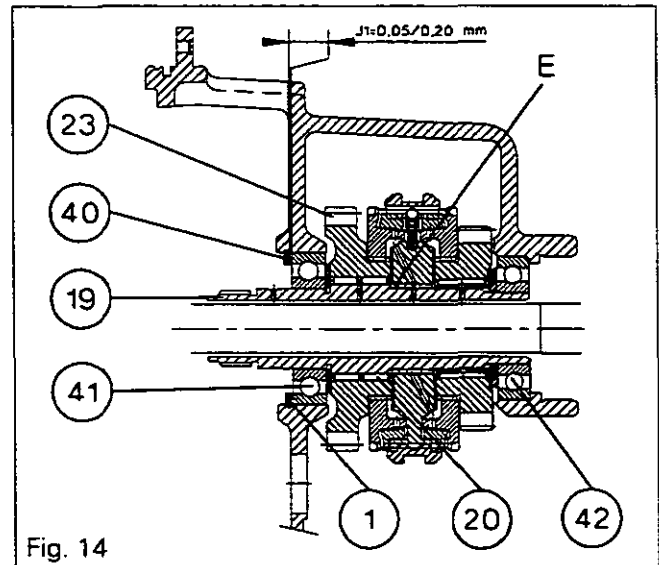

Fig. 14
H. Speedshift version (Fig. 14)
Special points (Fig. 14)